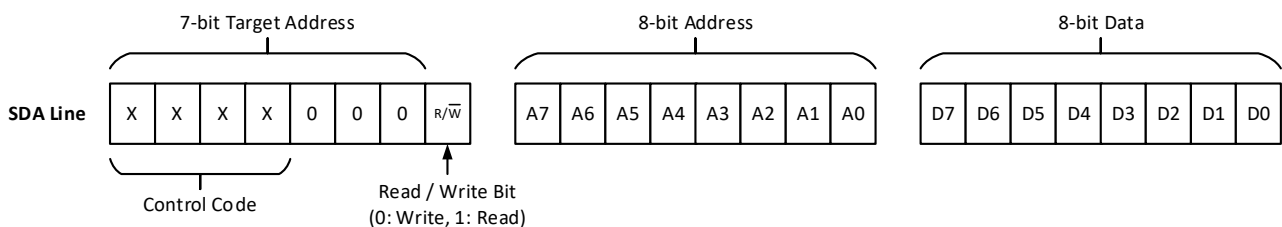

Figure 153. I²C Basic Command Structure
Each command to the I²C serial communications macrocell begins with a 'START' condition. The basic command structure of the I²C protocol is shown in Figure 153. After the 'START' condition (S), the I²C controller (master) sends 7-bit target (slave) address followed by the R/W bit. The SLG47001-E/03-E allows multiple target addresses by programming the first four bits ('Control Code') of the 7-bit target address. Each bit in the 'Control Code' can be sourced independently from the I2C_SLA[3:0] (Reg[1467:1464]) register. When the I2C_SLA0_SEL (Reg[1468]) and the I2C_SLA1_SEL (Reg[1469]) registers are set to '1', Bit0 and Bit1 of the 'Control Code' are defined by the logic levels of GPIO0 and GPIO2 pins respectively. This gives flexibility in addressing with multiple devices on the same I²C bus. The R/W bit selects whether a read (R/W = 1) or a write (R/W = 0) command is requested. The R/W bit will be followed by an 'Acknowledge' bit (ACK), which is sent by the target device to indicate successful communication of the first byte of data.